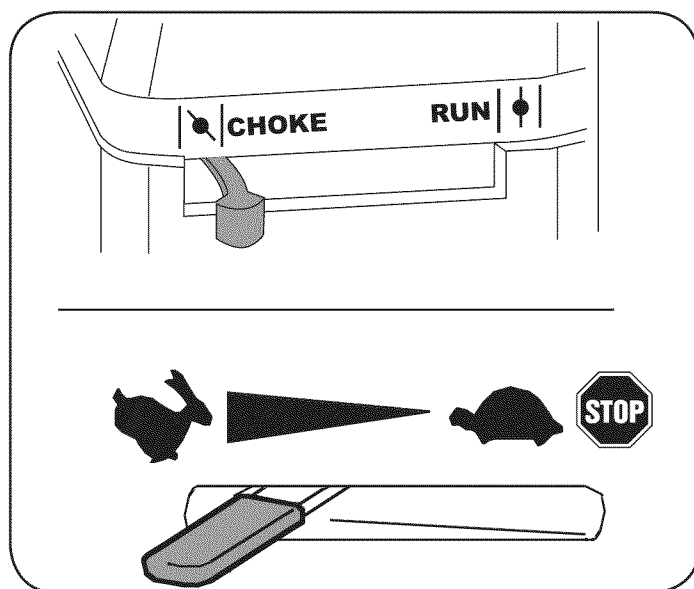

Figure 9
4. Move the choke lever on the engine to CHOKE position. (A warm engine may not require choking.) See Figure 9.
5. Move throttle control to START/RUN (Rabbit) position. See Figure 9.